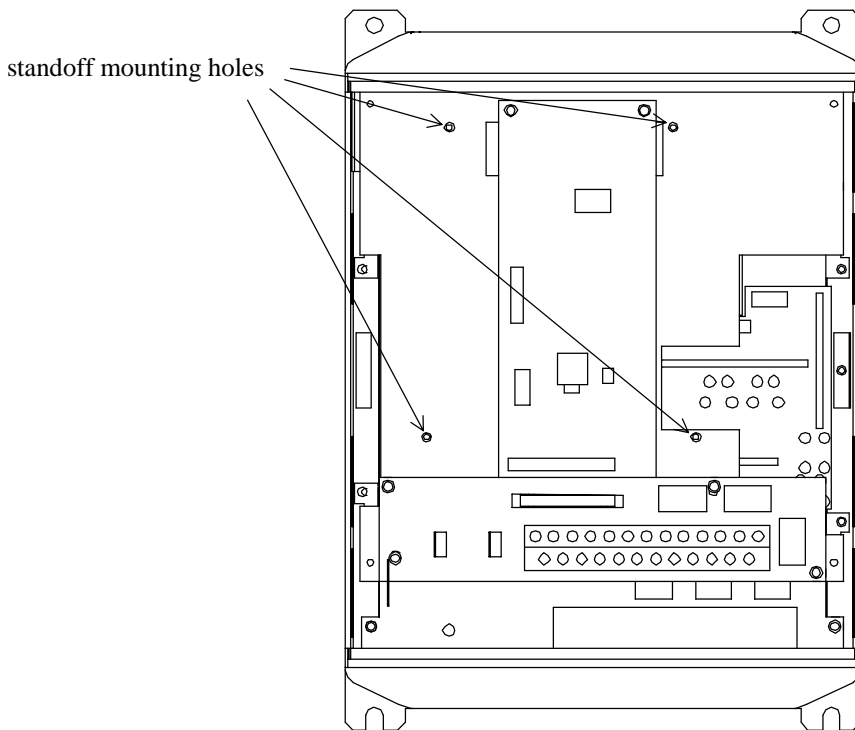

Figure 2: *G3 with front cover and operation panel support bracket removed*
7. Install the 4 nylon standoffs into the holes provided in the control board support bracket (refer to Figure 2).